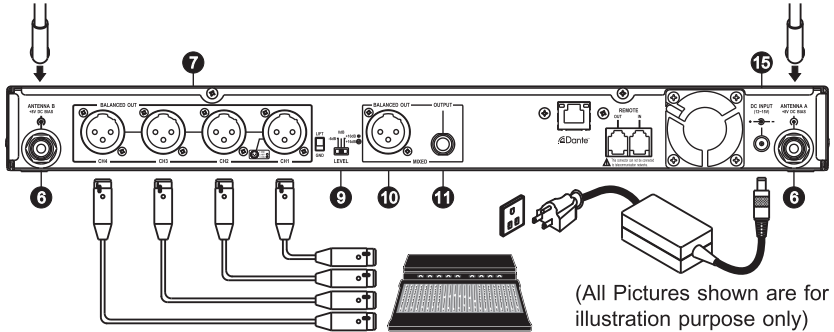

Fig. 2
## II. Receiver Installation. Fig. 2
- (A) Each channel signal output can be connected to the mixer or amplifier's MIC IN jack by an XLR Male to XLR Male microphone cable. Fig. 2